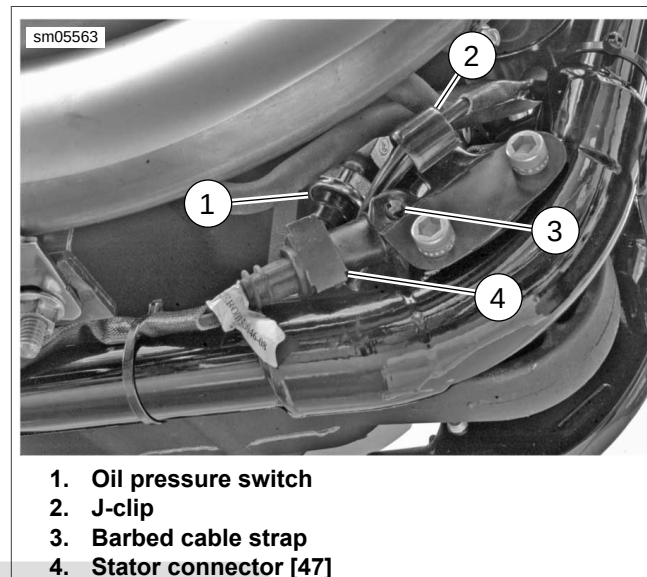

Figure 6-92. Oil Pressure Switch: XR 1200X
2. See Figure 6-92. Unplug stator connector (4). Carefully pull barbed cable strap (3) from frame.